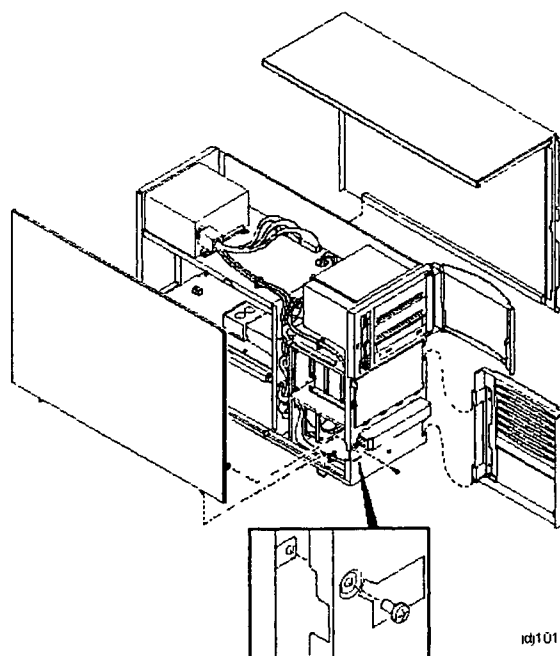

Figure 6: Removing the covers from the computer
4. Remove the retaining screw indicated by the yellow label on the lower left side of the front of the system. See Figure 6.